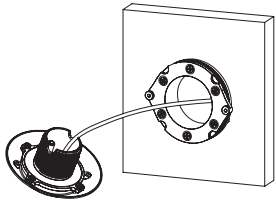
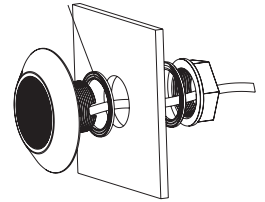

Figure 10
Figure 13
4. The lamp is arranged on the cover shell and through the line hole; then tighten the Nut (Figure 10 and Figure 13).